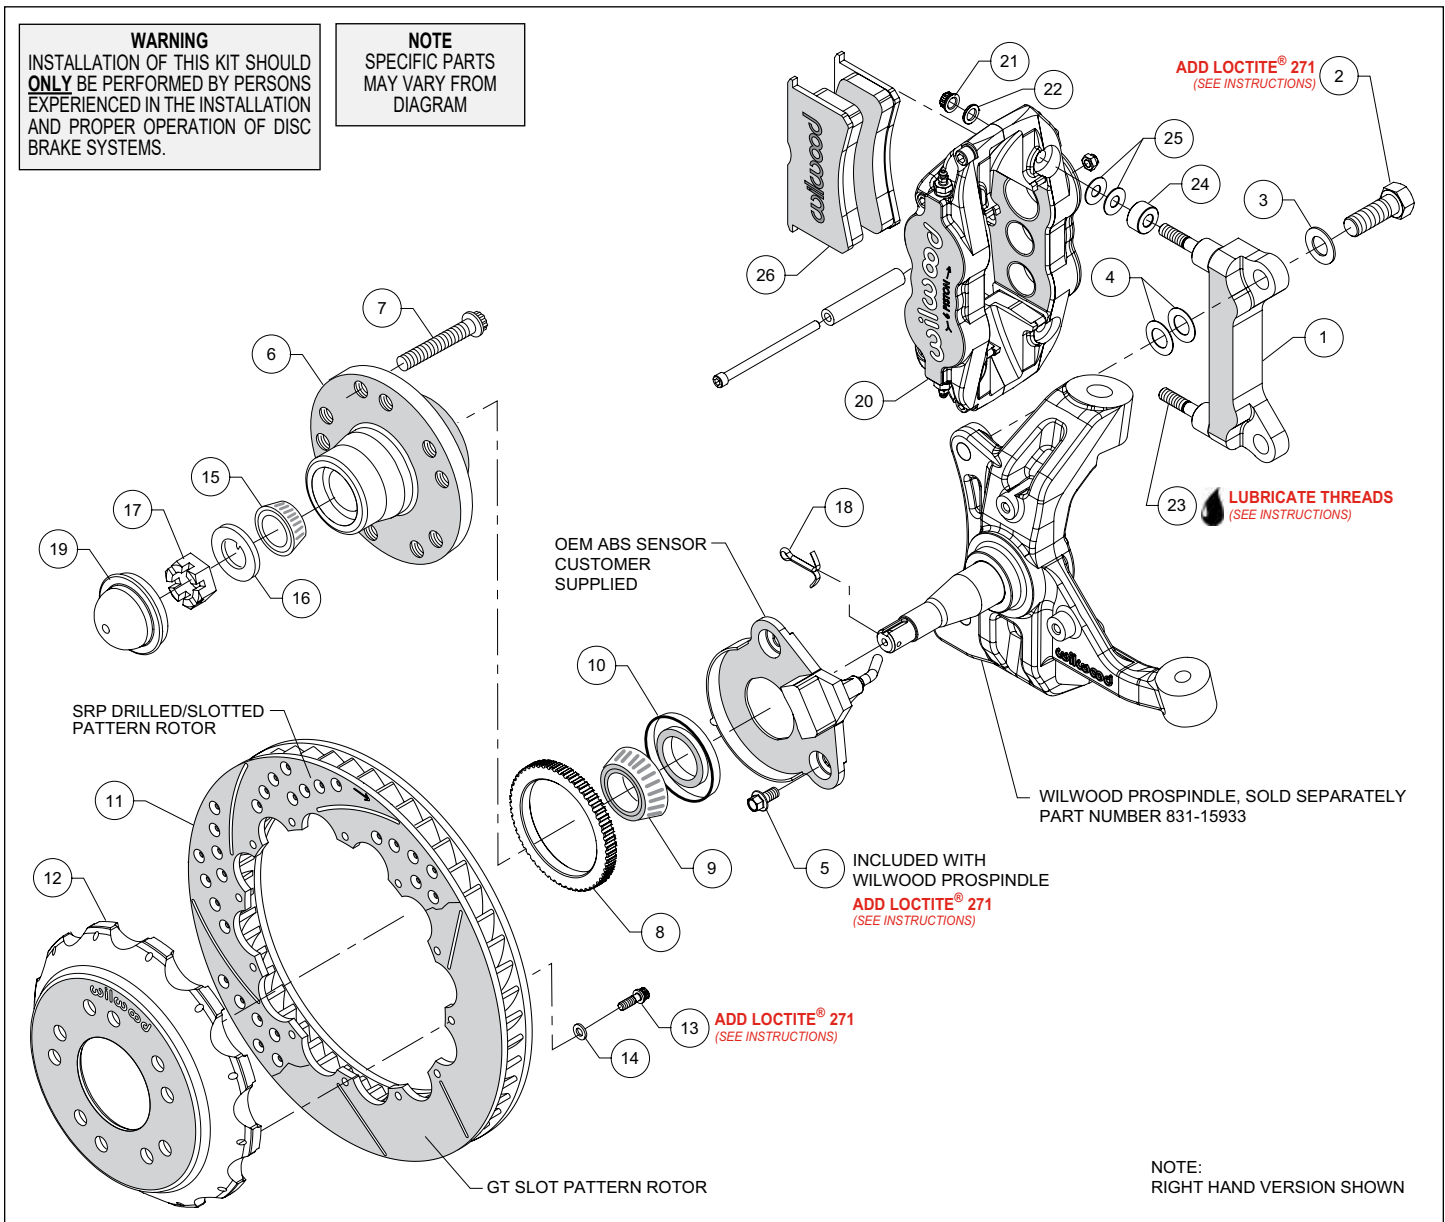
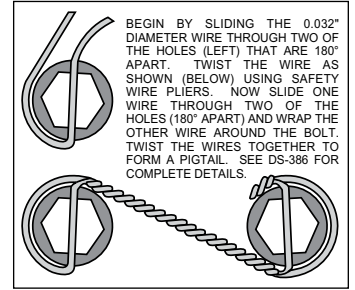

Figure 1. Typical Installation Configuration
Figure 3. Safety Wire Diagram
NOTE: Numbers in parenthesis refer to the parts list and Figure 1 on the preceding pages.
- For vehicles equipped with ABS, install the OEM ABS sensor (customer supplied) to the spindle using bolts (5) as shown in Figure 1 and Photo 3. Temporarily tighten the mounting bolts. **NOTE: The sensor must fit squarely against the mount bosses on the spindle.** Inspect for interference from casting irregularities, machining ridges, burrs, etc. Remove the bolts one at a time and apply red *Loctite*® 271 to the threads, and torque to 20 ft-lb.
- The caliper mount bracket (1) should initially be installed with clean, dry threads on the mounting bolts. Orient the bracket, as shown in Figure 1 and Photo 4, and install using bolts (2) and washers (3). Initially place two .024" thick shims (4) on each bolt between the bracket and spindle, Figure 1. Temporarily tighten the mounting bolts. **NOTE: The bracket must fit squarely against the mount bosses on the spindle.** Inspect for interference from casting irregularities, machining ridges, burrs, etc. Later, after the caliper alignment has been checked, the mount bolts will be secured using red *Loctite*® 271.
- Install wheel studs (7) into the hub (6), Photo 5. Torque to 77 ft-lb. **NOTE: There are two five lug patterns in the hub (5 x 4.75 and 5 x 5.00).** Ensure the correct hub stud pattern is being used to fit the wheel application.
- For vehicles equipped with ABS, carefully press the ABS ring (8) onto the backside of the hub (6) as shown in Figure 1 and Photo 6.
- Pack the large inner bearing cone (9) with high temperature disc brake bearing grease (available from your local auto parts store) and install into the backside of the hub (6), Photo 7.
- Install the grease seal (10) by pressing into the backside of the hub (6), flush with the end of the hub, Photo 7.
- Press the dust cap (19) into the hub (6). **NOTE:** Do not hammer center of cap. Install using outer flange only.
- Orient the rotor (11) and the hat (12) as shown in Figure 1 and Photo 9. Attach rotor to hat using bolts (13) and washers (14). Using an alternating sequence, apply red *Loctite*® 271 to the threads, and torque to 155 **in-lbs**. For an added measure of security, the bolts may be safety wired using standard 0.032 inch diameter stainless steel safety wire as shown in Figure 3. Refer to Wilwood's data sheet DS-386 (available at www.wilwood.com/Pdf/DataSheets/ds386.pdf) for complete safety wire installation instructions.
- Slide the hat/rotor (12 and 11) onto the hub (6), Photo 10. **NOTE:** The hat must fit flush against the hub face or excessive rotor run out may result. Install three lug nuts (finger tight) to keep the hat/rotor in place while continuing with the installation.
- NOTE:** This kit contains distinct right and left hand calipers that must be mounted in a specific direction, as described below. Lubricate the caliper mounting studs (23) with lightweight oil. Initially place two .035" thick shims (25) and one spacer (24) on each stud between the caliper and the bracket, as shown in Figure 1 and Photo 11. Mount the caliper (20) onto the bracket (1) using lock nuts (21) and washers (22), Figure 1. Temporarily tighten the lock nuts. Ensure that the caliper is mounted so that the largest pistons are at the rotor exit end of the caliper, in relation to the direction of rotor rotation. View the rotor through the top opening of the caliper. The rotor should be centered in the caliper, Photo 12. If not, adjust by adding or subtracting shims (4) between the bracket and the spindle. Always use the same amount of shims on each of the two mounting bolts. Once the caliper alignment is correct, remove the bracket mounting bolts one at a time, apply red *Loctite*® 271 to the threads, and torque to 140 ft-lb.